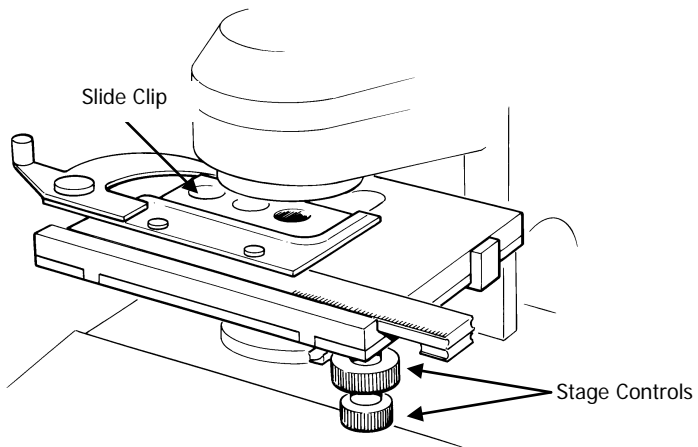

Figure 18 Parts of the Sample Stage
6. Looking from the front, adjust the stage in the x and y directions with the stage controls (under the stage on the right, Figure 18) until the sample is illuminated.